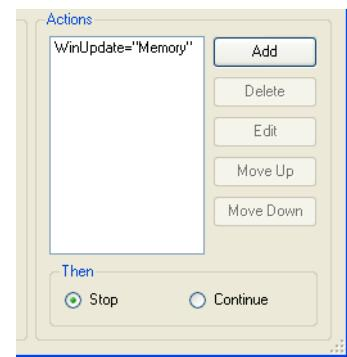

Figure 12-3 The breakpoint action list
- Click **OK** to close the Add Action dialog box. The action is added to the breakpoint action list, shown in Figure 12-3.
6. Click **OK** to close the Add Action dialog box. The action is added to the breakpoint action list, shown in Figure 12-3 on page 12-5.